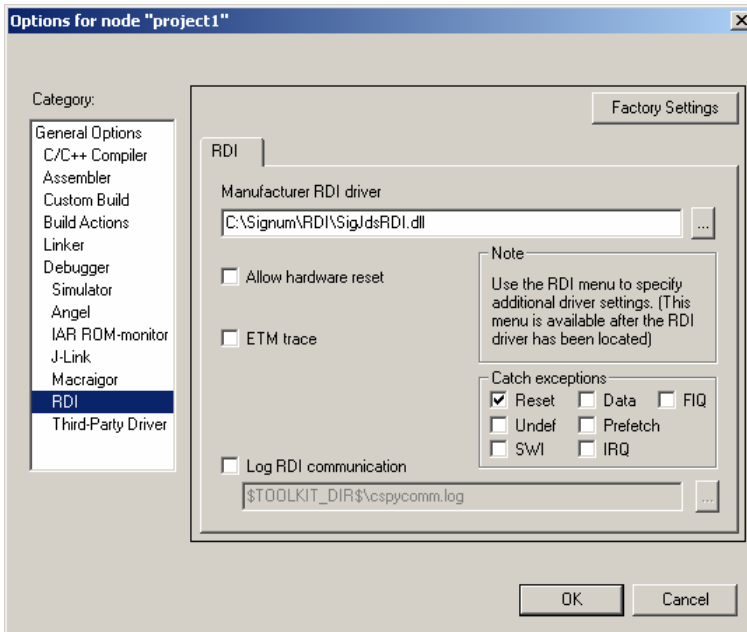

FIGURE 14 Selecting the RDI driver DLL file for C-Spy.
2. Select the RDI tab. In the Manufacturer RDI Driver edit box, navigate to the SigJdsRDI.dll file in the C:\Signum\RDI directory, as in Figure 14.